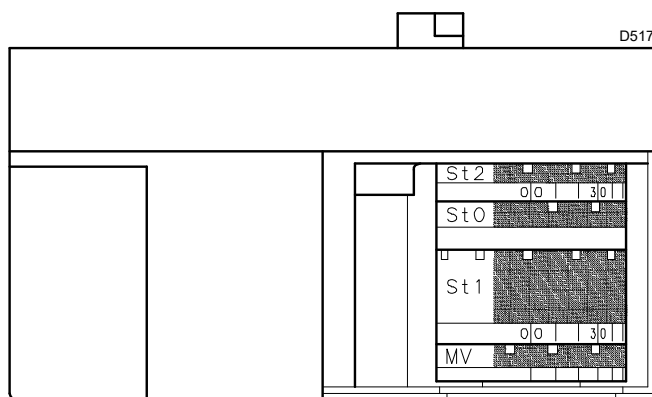

Fig. 33
- If it is necessary to reduce it, slightly decrease the angle of orange lever (Fig. 33 on page 28) with small, regular movements, i.e. bring it from an angle of 15° to 13° - 11°...